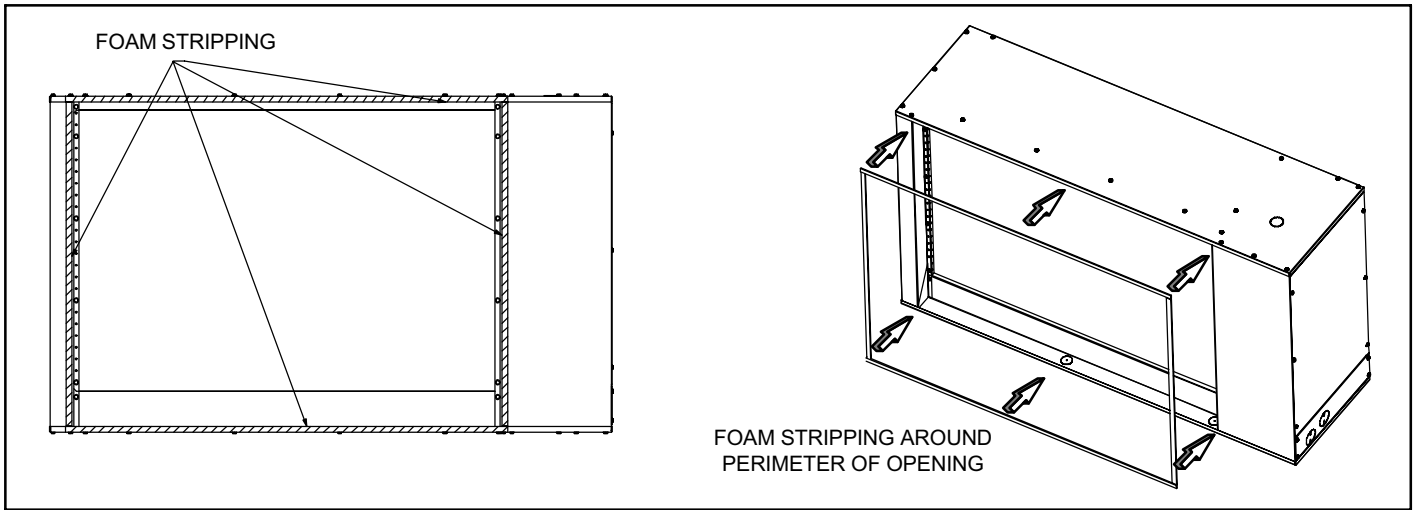

Figure 1. Foam Stripping Installation
2. Apply PVC foam striping around adjoining cabinet surfaces as illustrated in figure 1.